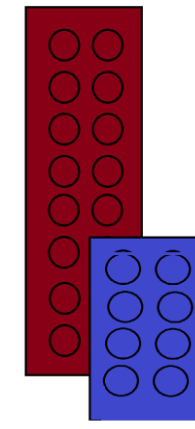

Figure 3: LEGO Blade Design
- **Design:** See Figure 3 for the implemented design.